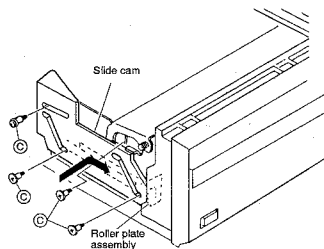

Fig. 16
- ② Tighten four screws (C) to install the slide cam. (Fig. 16)